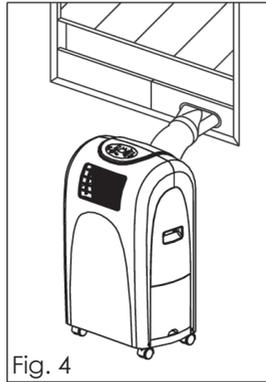
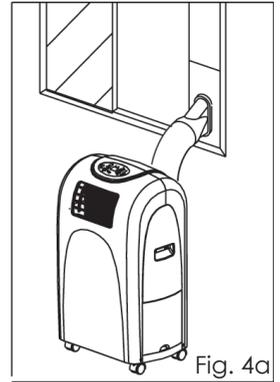

Fig. 4
Fig. 4a
2. Install the Flexible Exhaust Hose and the Adjustable Window Slider Kit as depicted in Fig. 4 & Fig. 4a